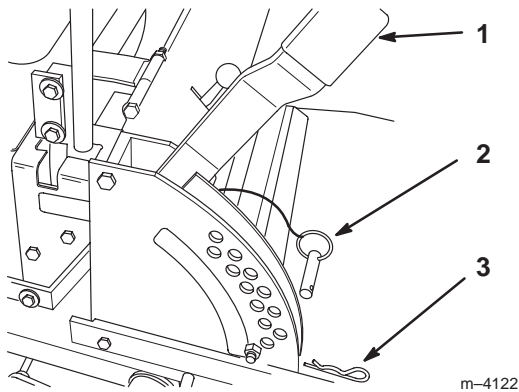

Figure 20
1. Raise the height-of-cut lever to the transport position (also the 4-1/2 in. [114 mm] cutting height position) (Fig. 20).
2. To adjust, remove the hairpin cotter and clevis pin from the height-of-cut bracket (Fig. 20).
3. Select the hole in the height-of-cut bracket corresponding to the height-of-cut desired, and insert the clevis pin (Fig. 20).
4. Secure the clevis pin with the hairpin cotter (Fig. 20).
5. Lower the height-of-cut lever onto the clevis pin (Fig. 20).